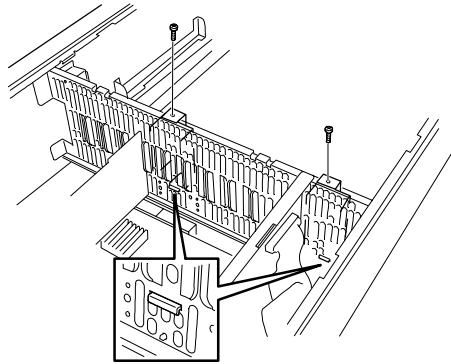

Figure 4-21. Installing the CPU box Guides
- 11.** Attach the new CPU box guides (rear: right and left) to the BSU chassis, then secure each of them with a screw removed in the previous steps, see Figure 4-21.